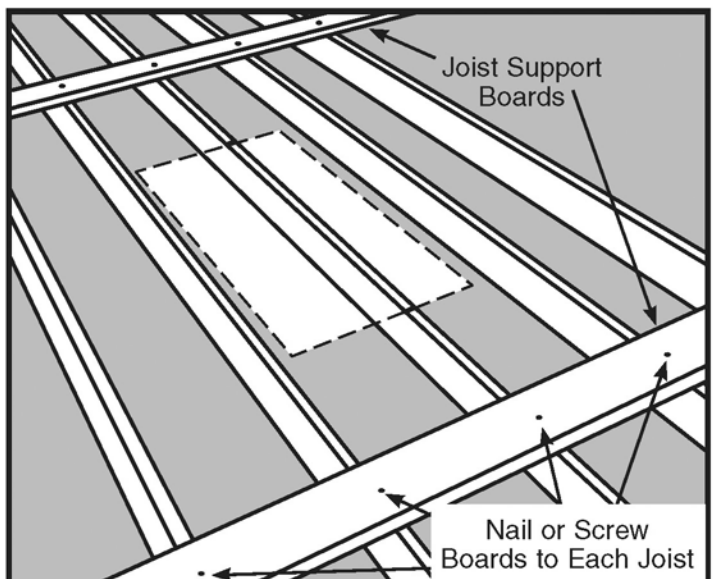

Figure 9
STEP 2. Cut 2 joist-sized boards long enough to span 2 joists on each side of your chosen location (See Figure 9). These boards will support the joists that will be cut and help keep the ceiling from sagging or completely collapsing while you are working in the overhead space.
STEP 3. Place these boards approximately 24" from the edge of your chosen location and nail (See Figure 9).